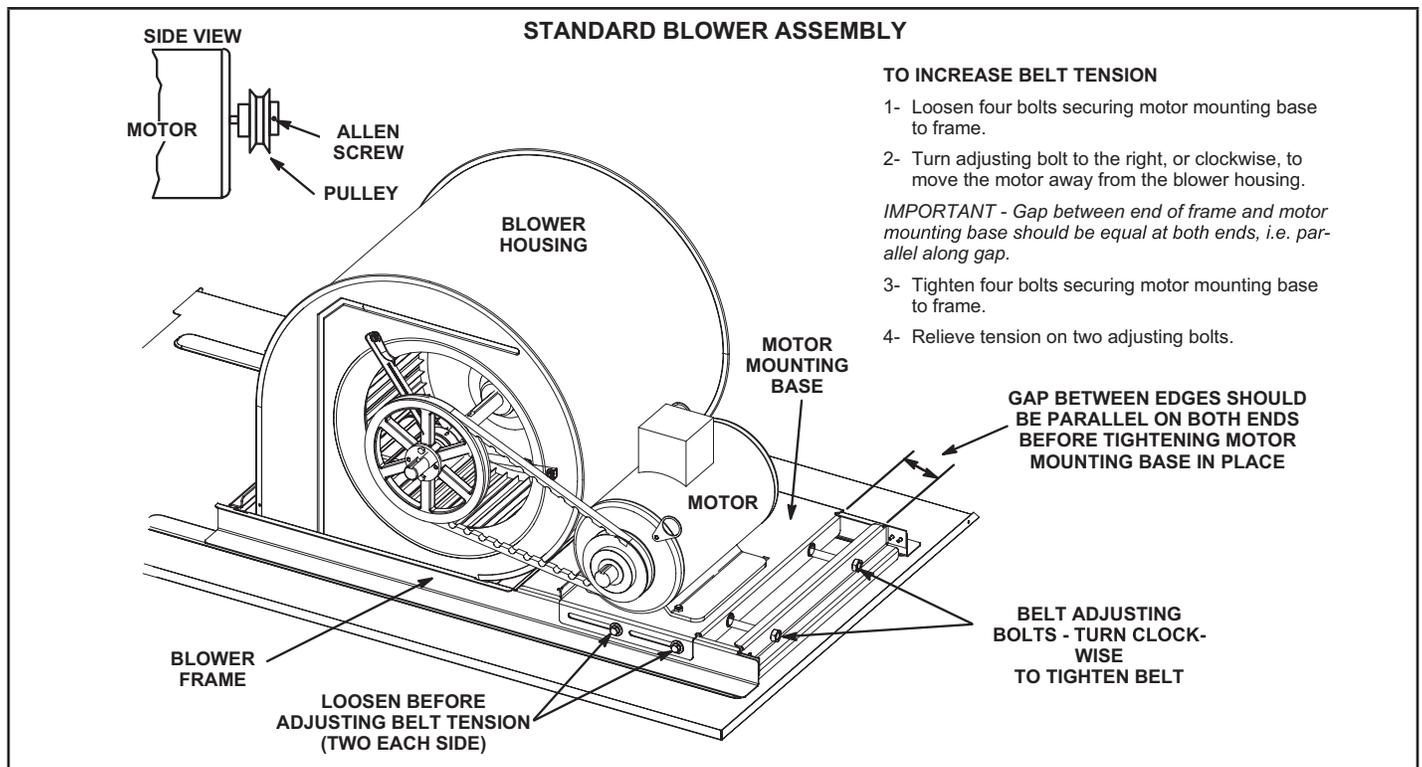

FIGURE 5
The blower assembly is secured to a sliding frame which allows the blower motor to be pulled out of the unit. See FIGURE 5.
- 5 - The blower RPM can be adjusted at the motor pulley. Loosen Allen screw and turn adjustable pulley clockwise to increase CFM. Turn counterclockwise to decrease CFM. See FIGURE 5. Do not exceed minimum and maximum number of pulley turns as shown in TABLE 1.
- 1 - Loosen four bolts securing motor base to mounting frame. See FIGURE 5.